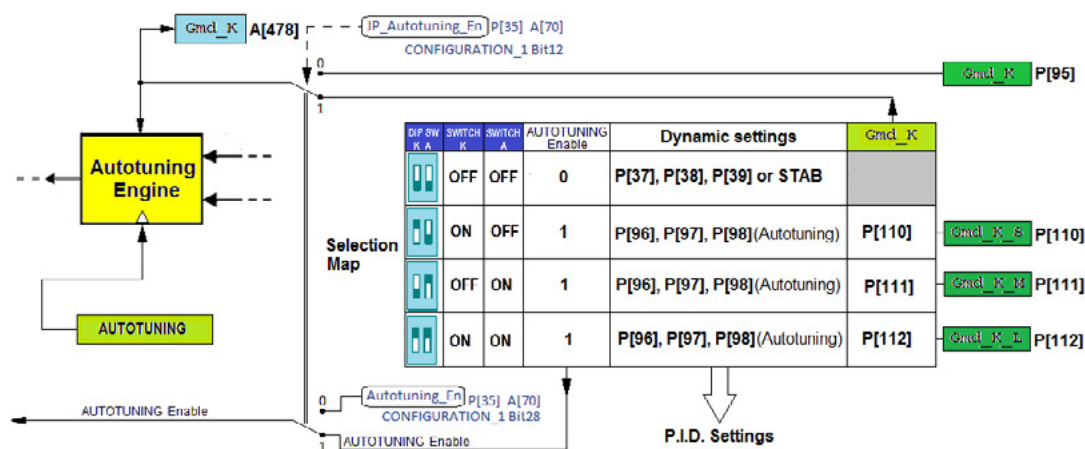
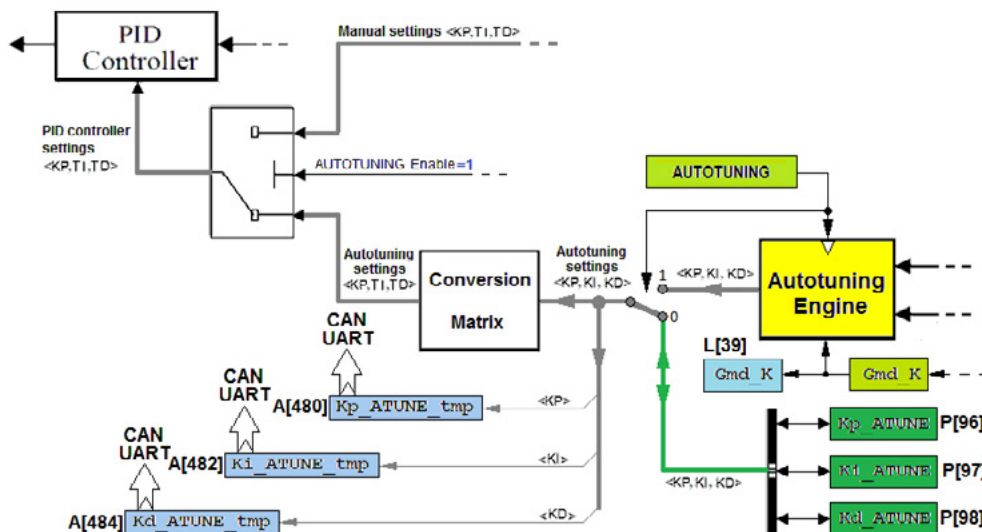

Fig. 5.4-A: Auto-tuning Selection scheme
Fig. 5.5-A: Auto-tuning P.I.D. controller settings
The method used is selected through the combination of two hardware DIP-switches (named K and A, fig. 5.3-A: Auto-tuning DIP Switches) or the corresponding flag **Autotuning** (bit B28 of parameter P[35] **CONFIGURATION_1**, address A[70]); source selection depends on the status of the flag **JP_Autotuning_En** (bit B12 of parameter P[35] **CONFIGURATION_1**, address A[70]); fig. 5.4-A: Auto-tuning Selection scheme.
The value taken by the variable **Gmd_K** which can be read at address A[478], fig. 5.4-A: Auto-tuning Selection and fig. 5.5-A: Auto-tuning P.I.D. controller settings is essential for correct auto-tuning operation.
If enabled, the 3 DIP switch “K” and “A” combinations, in which at least one of the two is “ON”, select one of the 3 values set by the 3 parameters P[110] **Gmd_K-S**, P[111], **Gmd_K-M** and P[112] **Gmd_K-L** (addresses A[220], A[222] and A[224]), fig. 5.4-A: Auto-tuning Selection
Enabling or disabling both DIP switches depends on the status of the flag **JP_Autotuning_En** (bit B12 of parameter P[35] **CONFIGURATION_1**, address A[70]), ref. fig. 5.4-A: Auto-tuning Selection.
The dynamic settings calculated by the auto-tuning algorithm can be read at addresses A[480] **Kp_ATUNE_tmp**, A[482] **Ki_ATUNE_tmp** and A[484] **Kd_ATUNE_tmp** fig. 5.5-A: Auto-tuning P.I.D. controller settings.
- the previously mentioned settings being saved in the respective parameters P[96] K_p_ATUNE , P[97] K_i_ATUNE , P[98] K_d_ATUNE (addresses A[192], A[194] and A[196]) fig. 5.5-A: Auto-tuning P.I.D. controller settings.